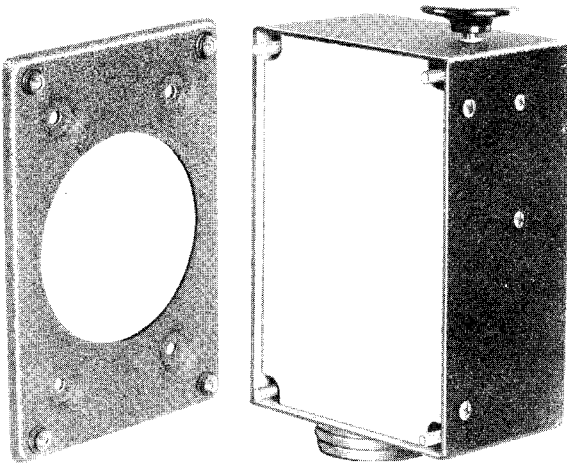

Figure 2-6. Type C-87/ART-13 Pilot Control Unit Mounting Base MT-163/ART-13
(3) TYPE C-87/ART-13 OR C-740/ART-13 PILOT'S CONTROL UNIT.
(a) Mount the Type C-87/ART-13 or C-740/ART-13 Pilot's Control Unit (figure 2-6 and 6-37A) in a position convenient to the pilot. Figure 8-7, page 8-13, 14 shows the outline dimensions and mounting details of the C-87/ART-13. Mount the C-87/ART-13 with the key upward and in a position that will facilitate the operation of the telegraph key when using CW or MCW emission. Figure 8-7A, page 8-13A, 14A shows the outline dimensions of the C-740/ART-13. Mount the C-740/ART-13 in accordance with sub-paragraph (3) (c) below.